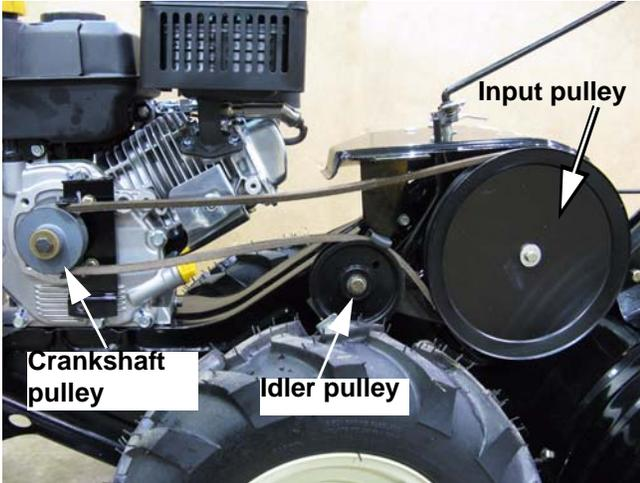

Figure 2.1
3. The idler pulley tightens the belt, transferring drive power to the chain case. See Figure 2.1.